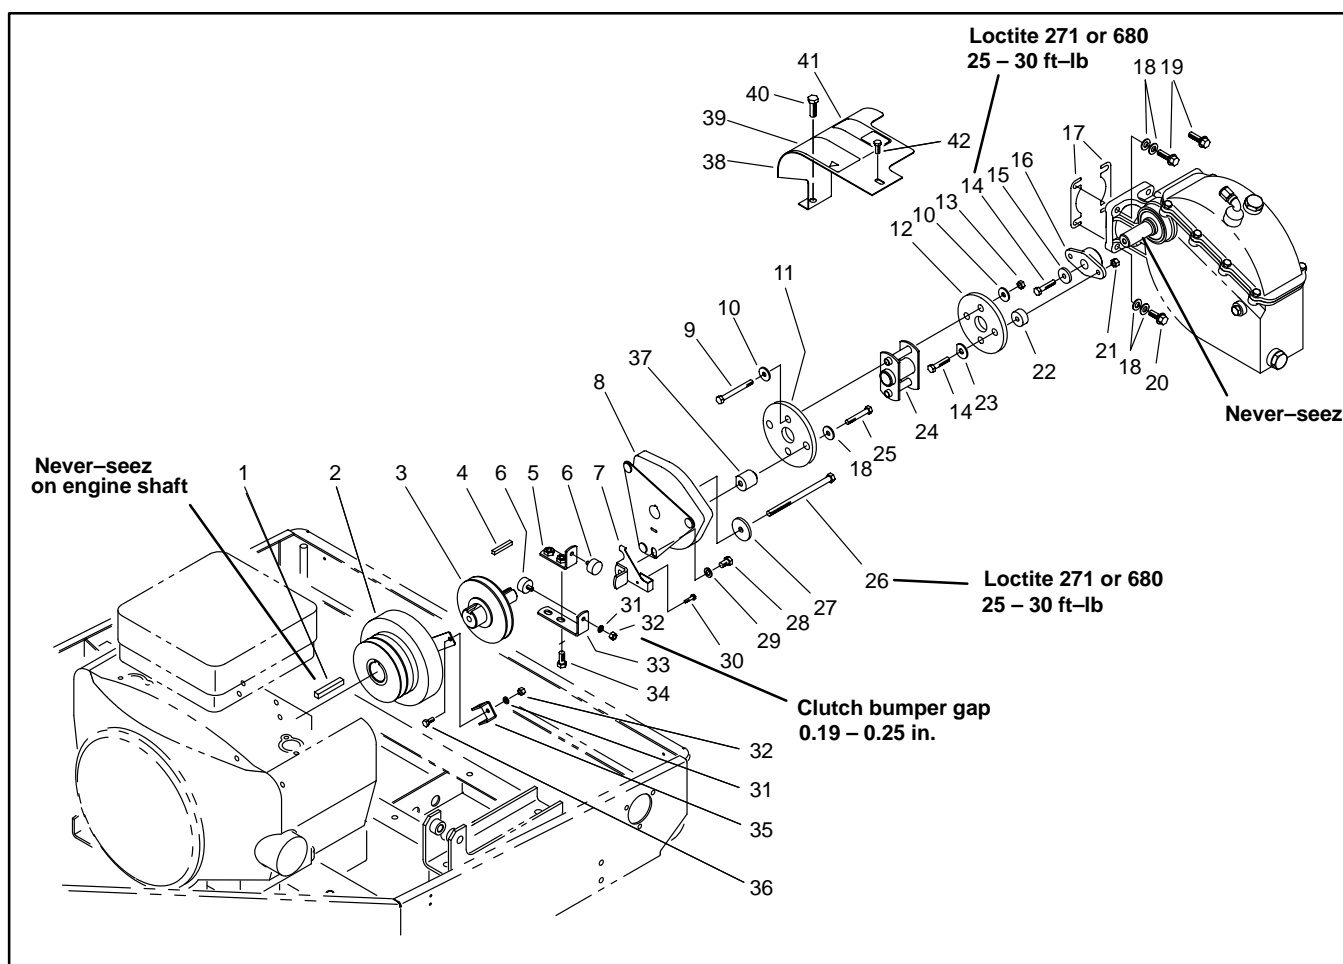

Figure 30
## Drive Coupling and Clutch Removal and Installation (Fig. 30)
4. Remove clutch stops (Fig. 30, Item 5) and clutch retainer bracket (Fig. 30, Item 39).